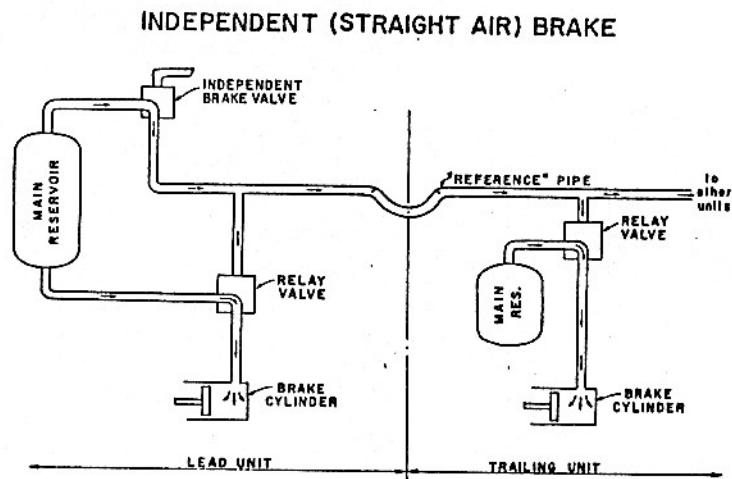
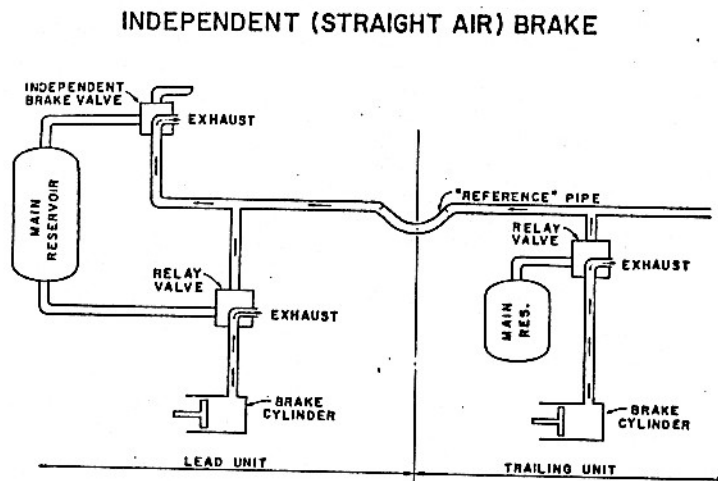

Fig. 4-3 APPLIED
Fig. 4-4 RELEASED
B. INDEPENDENT BRAKE (Figures 4-3 and 4-4)
A simplified version of the independent brake on a multiple unit diesel locomotive consist is shown in Figure 4-3 (applied position) and Figure 4-4 (release position).
In Figure 4-6 you will note that auxiliary reservoir air is used to apply the brakes on a car. On locomotives, air is admitted by the control valve which pilots a relay valve admitting air from main reservoir supply to the brake cylinders. This is the same relay valve utilized by the independent brake (shown in Figure 4-3 and 4-4)